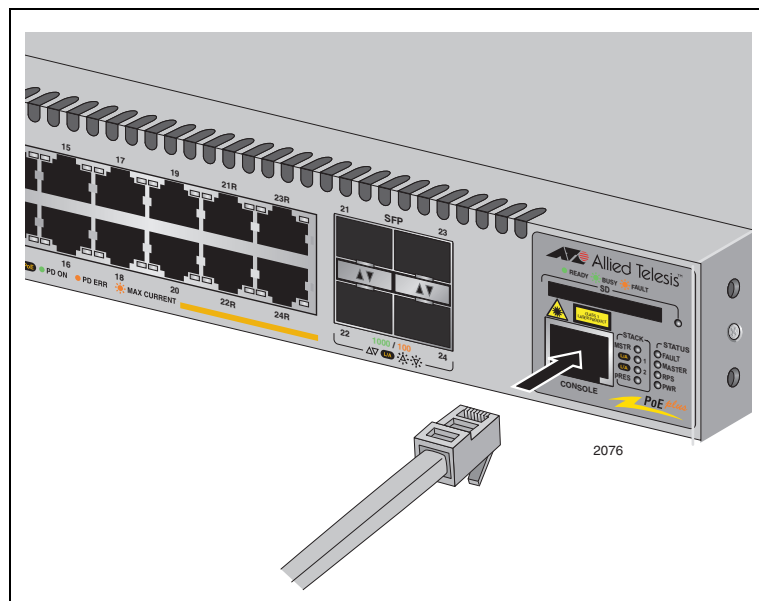

Figure 77. Connecting the Management Cable to the RJ-45 Terminal Port on the Switch
1. Connect the RJ-45 end of the management cable included with the x610 switch to the Terminal Port on the front panel of the switch, as shown in Figure 77.